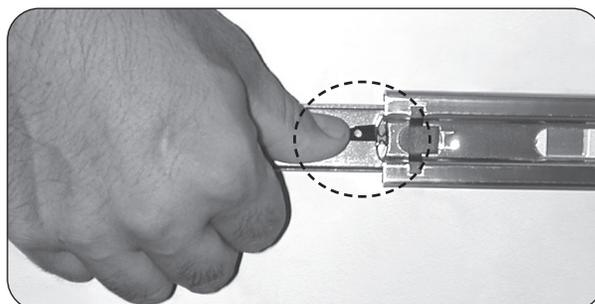

Fig. 14-5 Remove drawers
2. Release the drawer from the drawer slides by pressing the black lever down on the right side, and up on the left side and pull the drawer free from the slides. See Fig. 14-5.